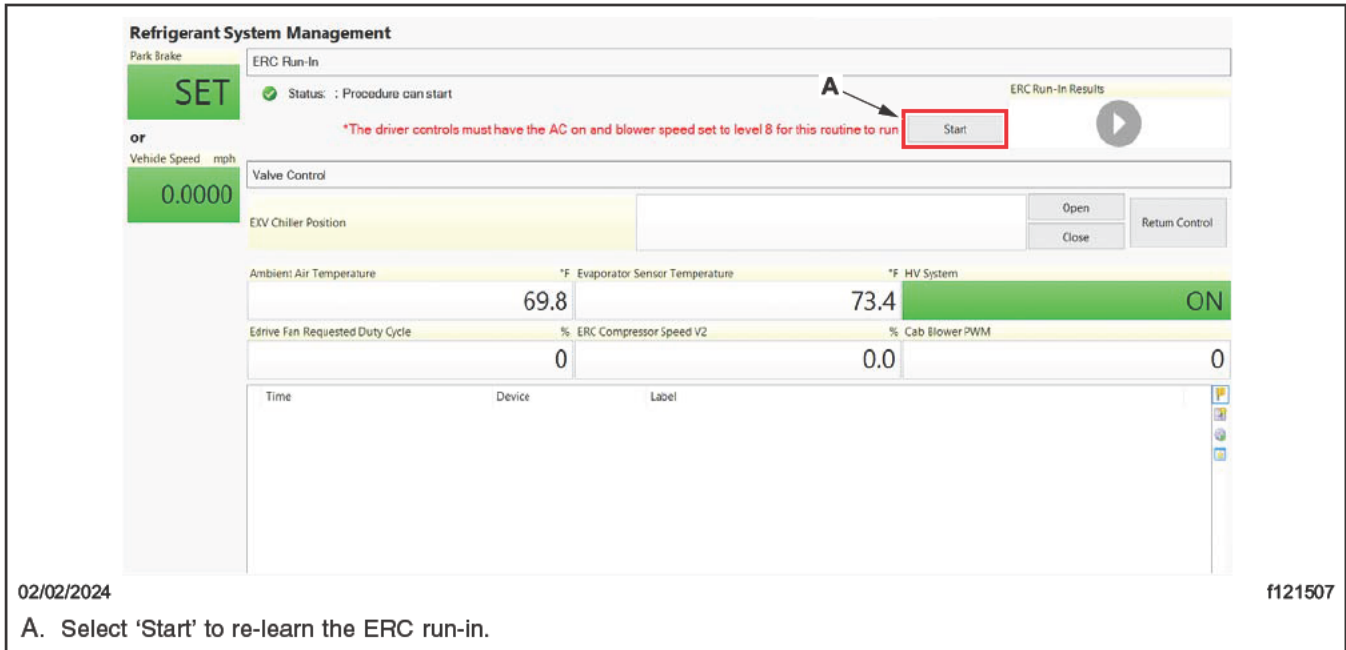

Fig. 32, ERC Run-In Panel
- 16.3 Select 'Start' to re-learn the ERC run-in. See Fig. 32.